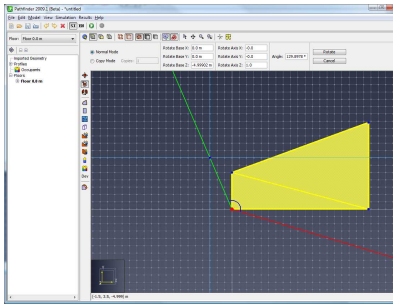

Figure 119. Reference line (red) and rotation angle (green)
- The second defines a reference vector extending from the rotation base (Figure 119).